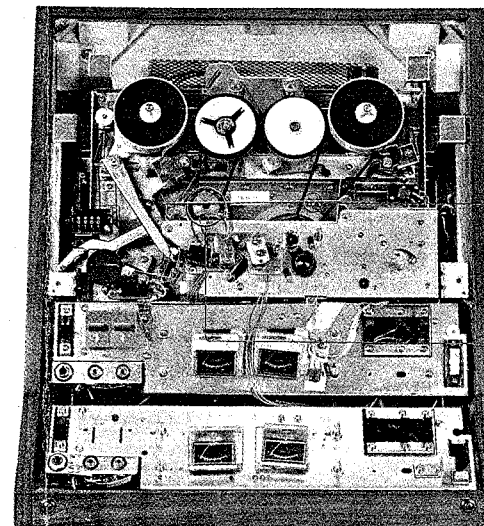

Fig. 16-1
**FIRST:** Using a screw-driver, turn the line frequency switch (S506) to the correct position for the power to be used (50 or 60 Hz). See Fig. 16-1.